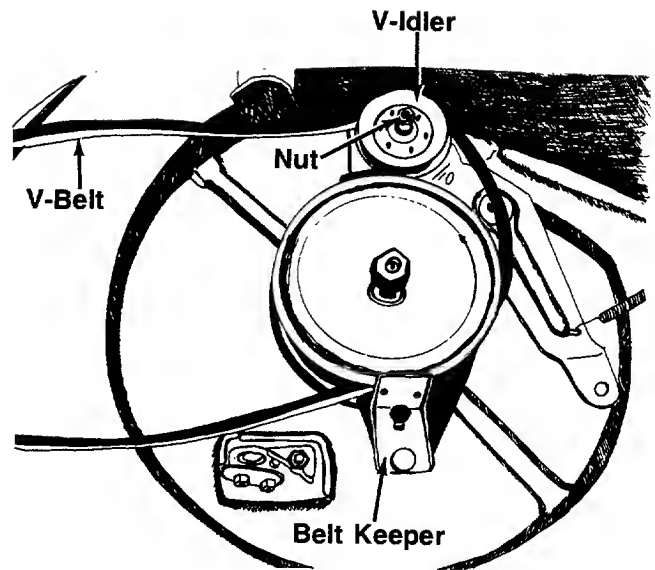

FIGURE 20.
3. Remove the belt keeper on the cutting deck. See figure 20.